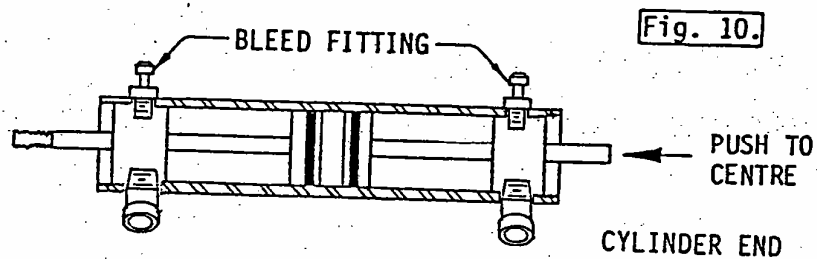

Fig. 10.
8. Push the piston rod into the cylinder barrel as shown in Fig. 10 (approximately centered).